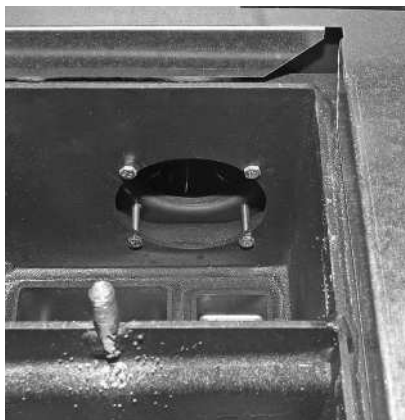

Fig. 32 Remove 4 bolts
- ▶ Remove the 4 bolts from the inside of the heat exchanger – Fig. 32. Carefully remove the induced draught fan.